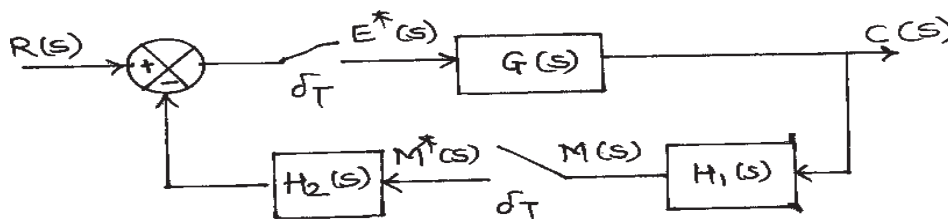

Fig. 2
- Q2) a)** Obtain the pulse transfer function of the system shown in Fig.2 [6]